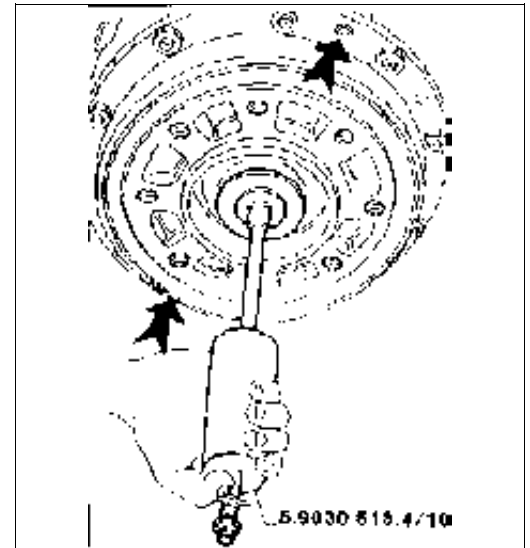

Fig. 9 - Removing the hub flange with SAT no. 5.9030.618.4/10 tool.
- fit puller p/n 5.9030.618.4/10 and remove the flange (see fig 9).
- screw two bolts into the holes indicated by the arrows (see fig 9) and separate the hub from the epicyclic housing.